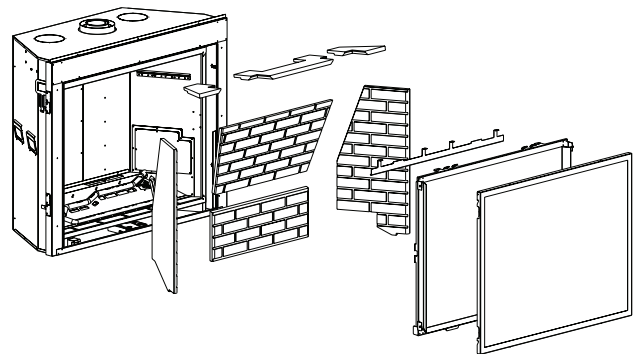

Figure 6
1. Remove the following items. **See Figure 6.**
9. Replace Glass Frame, Screen Barrier, and liners removed in Step 1, Figure 6.